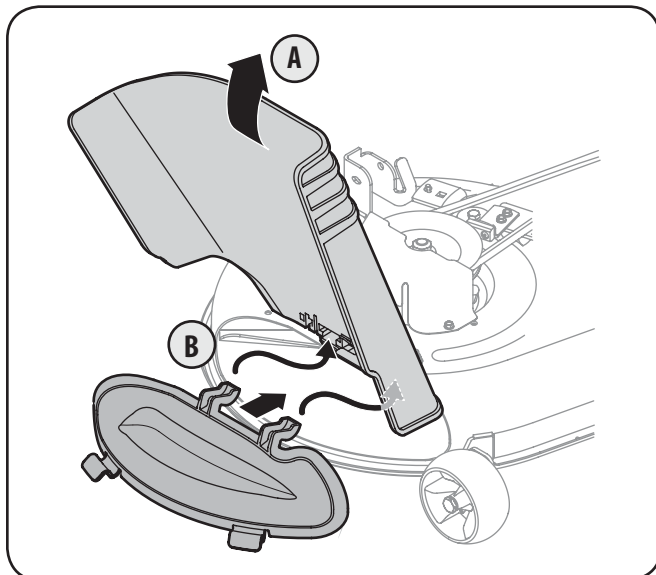
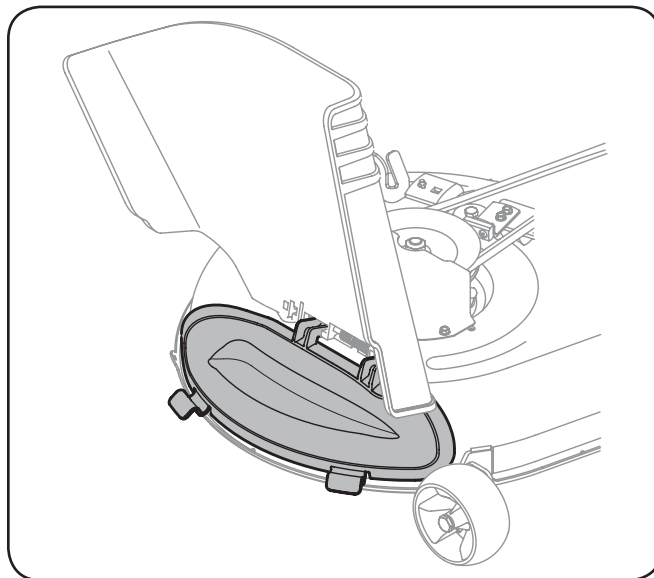

Figure 1-3
Figure 1-4
1. Lift the discharge chute up (A). See Fig. 1-3.
2. Insert the mulch plug into the deck discharge opening by fitting the tabs on the upper edge of the mulch plug inside the slots found on the discharge chute (B) and pivoting the mulch plug downward into place .
3. With the mulch plug in place, the discharge chute will remain propped-up so that the operator can more easily maneuver the tractor's deck near and around trees and other obstacles. See Fig. 1-4.